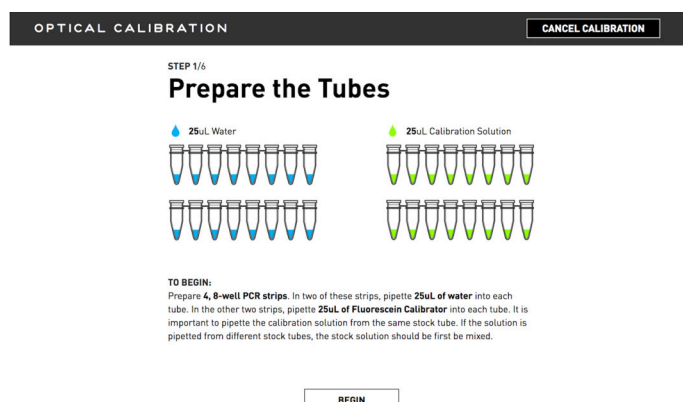

Figure 3.4
- The screen will prompt you to prepare 4 new 8-well PCR tubes (Figure 3.4). Gather the previously prepared strip solutions and select **Begin**.